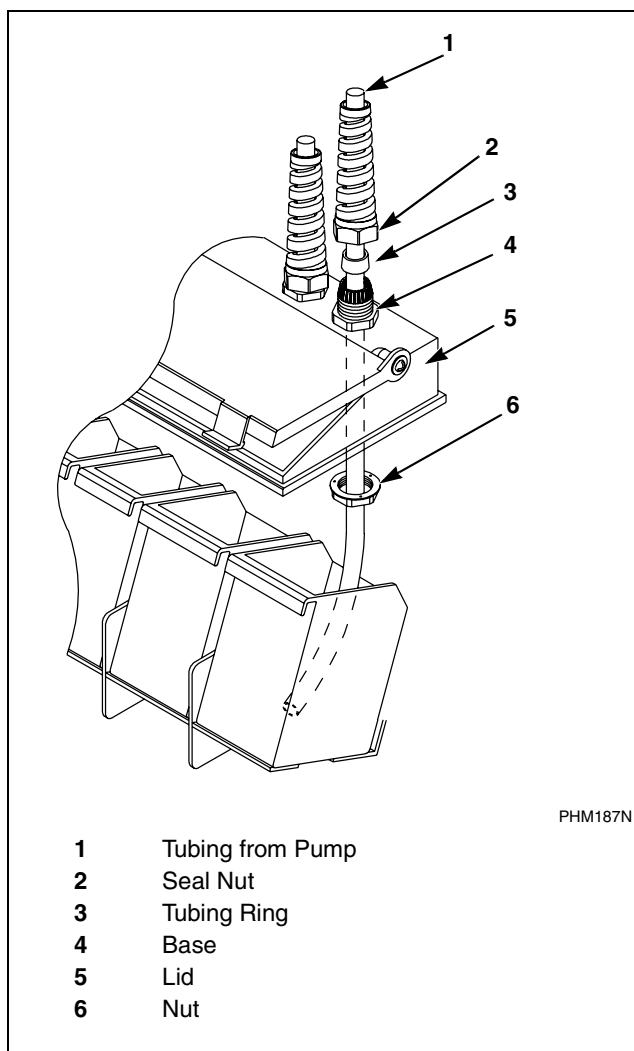

Figure 15
- 1. Remove plugs from base. Refer to *Figure 15*. Plugs are assembled inside the tubing ring.